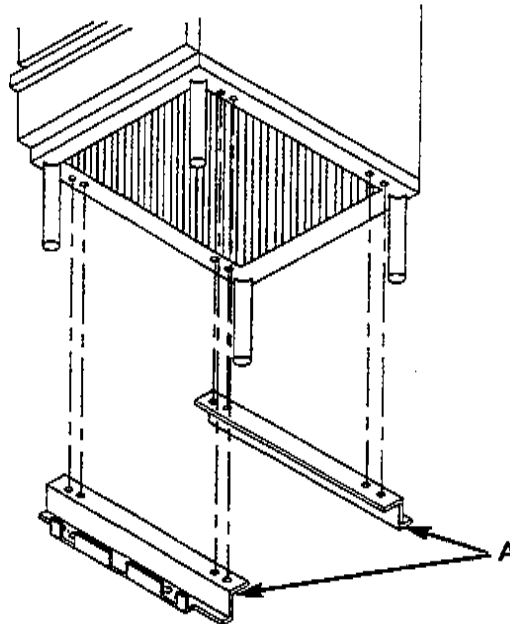

FIGURE 14
2. Attach frame hanger (1177296) (Item "A") to underside of oven. Be sure the flanged side of the rack hanger faces the front of the unit. Refer to figure 14.
3. Attach frame hanger (1177296) (Item "A"), to underside of oven. The rear frame hanger should be mounted so that the flanged side of the rack hanger faces the rear of the unit. Refer to figure 14.